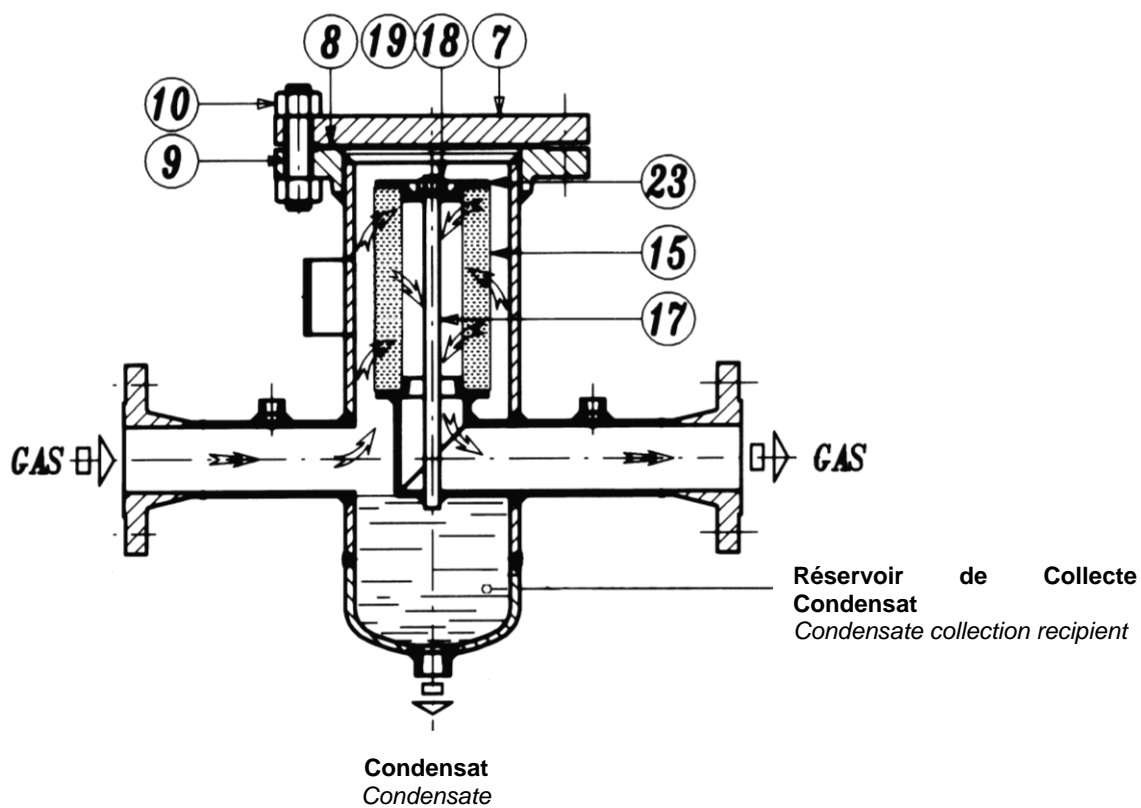

Fig. 2
1.3 FERMETURE DE LA TÊTE AVEC BRIDE (FIG. 2)